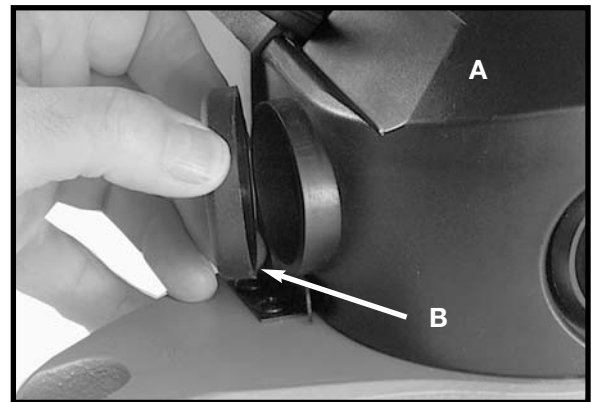

Fig. 25
A dust collection cup (A) Fig. 25 is provided and can be attached to a shop vacuum system by utilizing the port covered by cap (B).